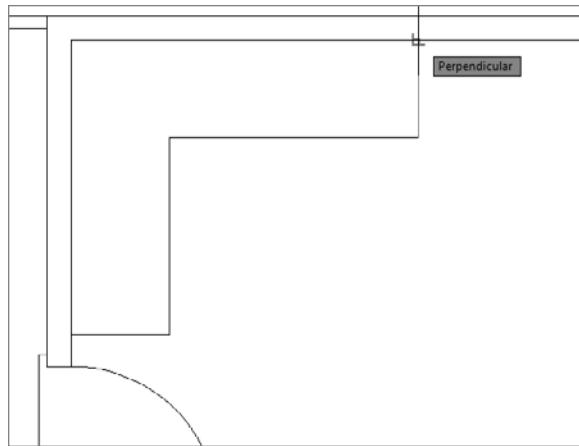

FIGURE 5.43 Completing the counter
10. Select the Perpendicular osnap and then pick the inside wall line, as shown in Figure 5.43, to complete the counter. Press \downarrow to end the LINE command.